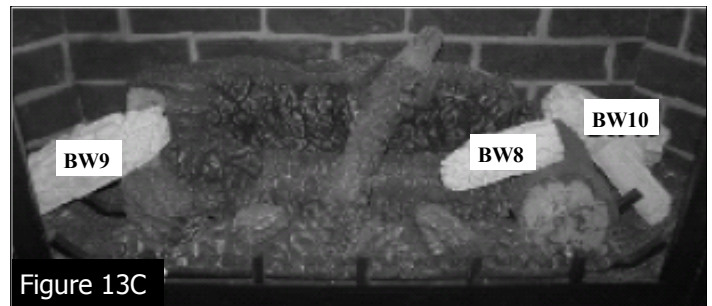

Figure 13C
5. Position top logs BW8, BW9 & BW10 as shown. *Figures 13C, 13D, 13E*